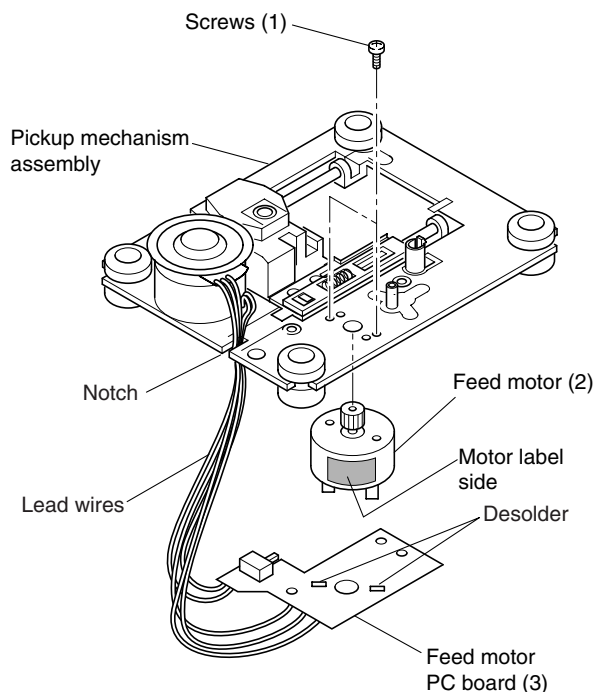

Fig. 2-1-22
1. Remove the gear B assembly (1) and the gear A (2). (Refer to item 1-3-6.)
2. Remove two screws (1) and remove the feed motor (2) (with the feed motor PC board (3) attached). (Refer to Fig. 2-1-22.)
3. Desolder the terminals of the feed motor (2) and remove the feed motor PC board (3).
- When replacing the loading motor, meet the polarity phase of the terminals. (Mount the motor with the label positioned as shown in Fig. 2-1-22.)